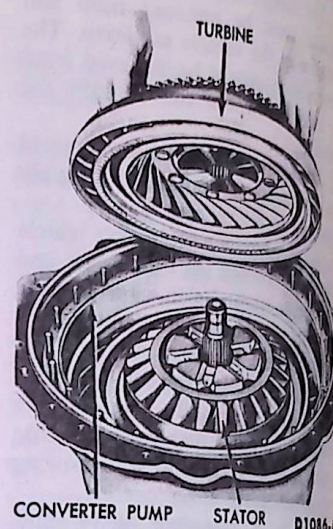

FIG. 19 Turbine Removal or Installations
3. Remove the hook-type seal ring and the snap ring from the turbine shaft, and remove the turbine from the shaft (Fig. 19).